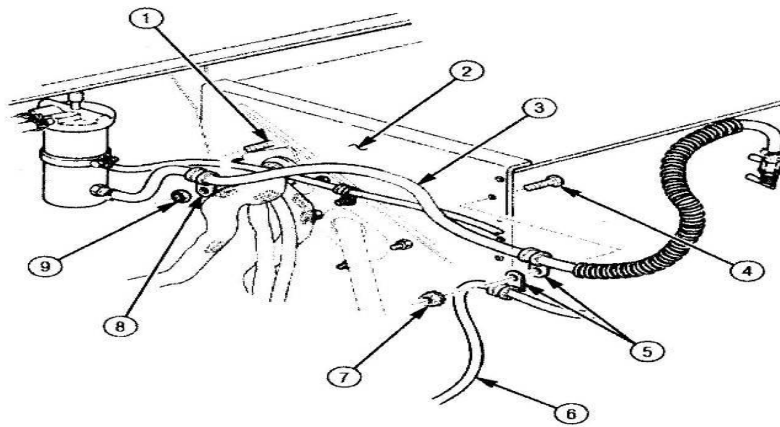

Figure 19
s. Removal of Fuel Filter Drain Hose and Cowl Insulation. Refer to TM 9-2320-387-24-1, Chapter 3, Task Para 3-35, Page 3-68 and **Figure 19 and 20** contained in these instructions.
(1) Remove nut (7), screw (4), two clamps (5), fuel filter drain hose (3), and branch of body wiring harness (6) from left inner cowl (2). Discard nut (7) and clamps (5), and retain all other parts.
(2) Remove nut (9), clamp (8), and fuel filter drain hose (3) from rear mounting position (1) for fuel filter drain hose (3). Discard nut (9) and clamp (8).